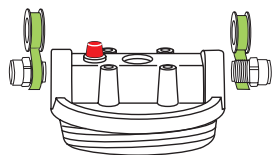

Figure 4
- 6** Wrap Teflon® tape (2 1/2 wraps) to the right around the 3/8" Push-In Fittings and fasten to filter head. (See Figure 4). *Do not use pipe sealant (dope), as solvents in some types of pipe dope may cause damage to plastic fittings.*